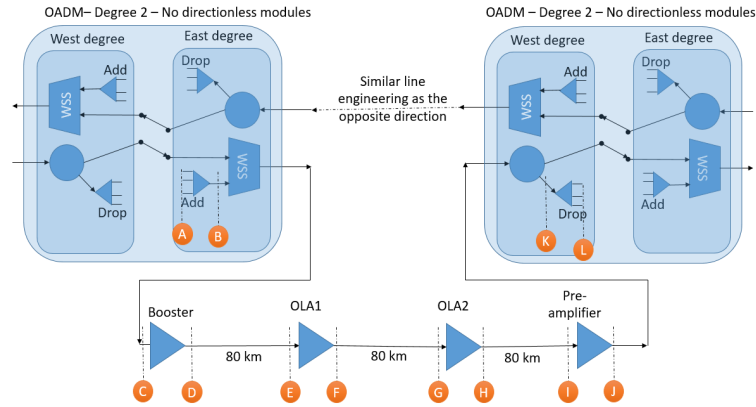

Figure 4: Diagram of a WDM link with amplification.
- Fig. 4 shows a diagram with the steps that follows a primary lightpath traversing a single WDM link in the current network design.
Fill in the following table, indicating the lightpath power at the different points A to L in Fig. 4. For this, observe the information in the **ReportNiw_wdm_lineEngineering**, that can be accessed from the **View reports** tab. In the report, move to the section of detailed per-lightpath information, and find there a lightpath traversing one hop.